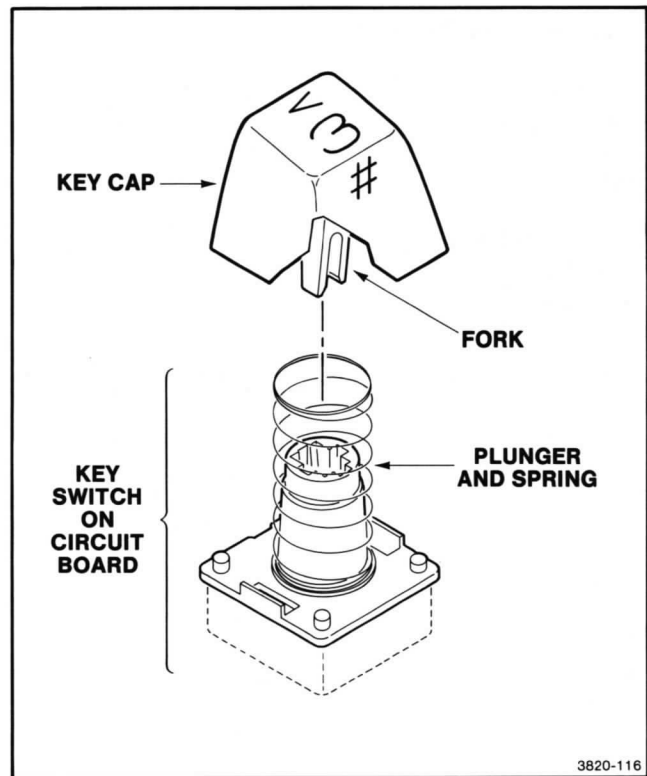

Figure 6-18. Installing Replacement Key Cap.
1. Position the key so that its nomenclature is pointing in the proper direction (not upside down or sideways). See Figure 6-18.